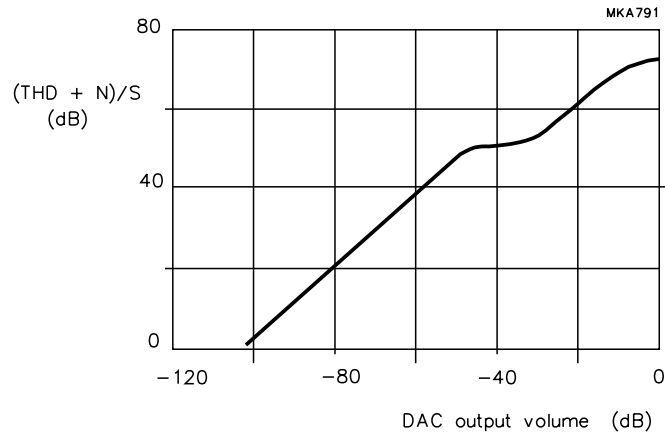

Fig.4 Total harmonic distortion plus noise-to-signal ratio as a function of output volume.
The word select input (pin 26) is connected to the word select line of the I2S-bus interface. This interface has a standard I2S-bus specification as described in the Philips "I2S-bus specification" (ordering number 9398 332 10011). Figure 4 shows an excerpt of the Philips I2S-bus specification interface report with respect to the general timing and format of the I2S-bus. WS logic 0 means left channel word, logic 1 means right channel word.
- MCLK (see Fig.4), which is a jitter free (maximum 30 ns jitter) external clock at any multiple integer from 45 to 128 times  $4f_{as}$  (4 times the frequency of WS) of the I2S-bus input, thus for a sample frequency of 38 kHz this clock frequency will range from 6.840 MHz to 19.456 MHz in multiples of 152 kHz.